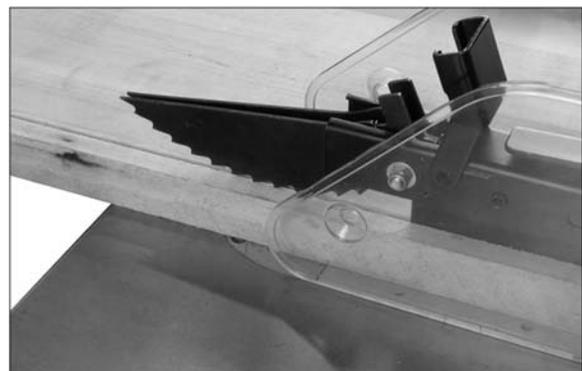

Figure 9-1
- ❑ As the machine receives use, the operation of the anti-kickback pawls should be checked periodically (Figure 9-1). If the pawls do not stop the reverse motion of a workpiece, sharpen all the points.